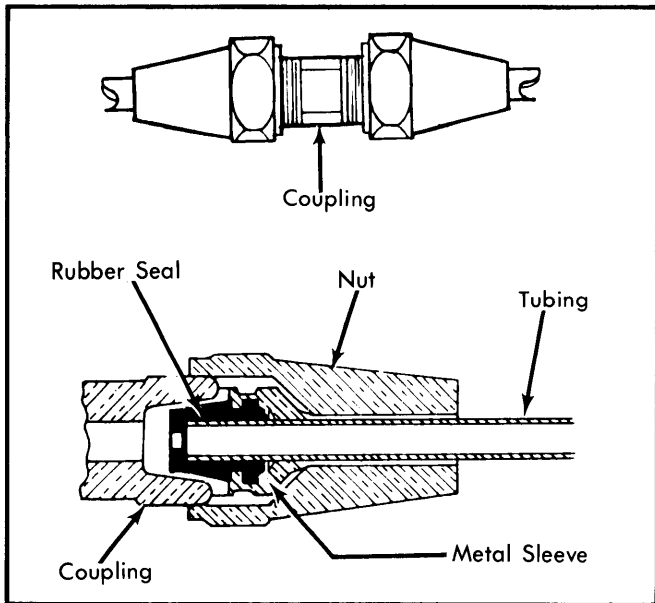

Fig. 5 Air Line Repair Coupling
- 4) Install coupling and tighten to 6 ft. lbs. See Fig. 5.